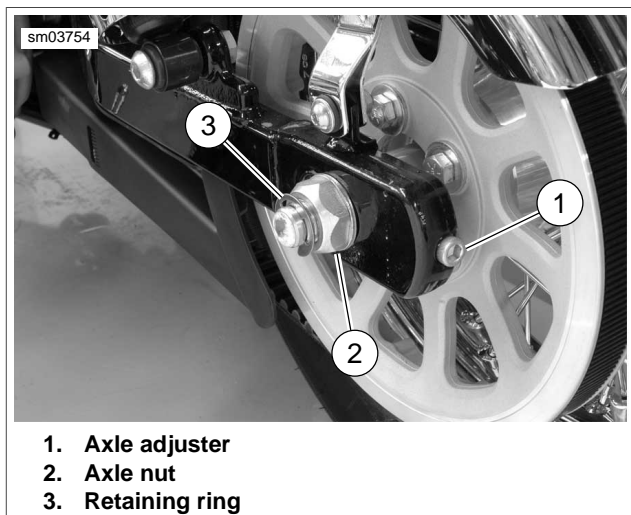

Figure 6-38. Axle Adjusters (Left Side Shown)
3. See Figure 6-38. Remove rear axle retaining ring (3). Loosen rear axle nut (2). Loosen both axle adjusters (1) to release tension on the drive belt.